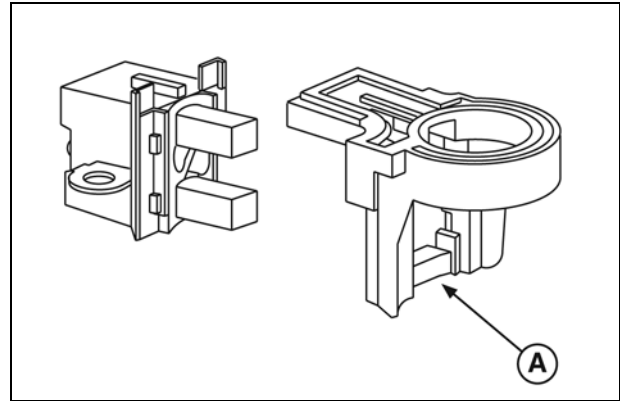

Figure 39
- Screw #1 - 0.45 in. (11.5 mm) (**A**, Figure 39).